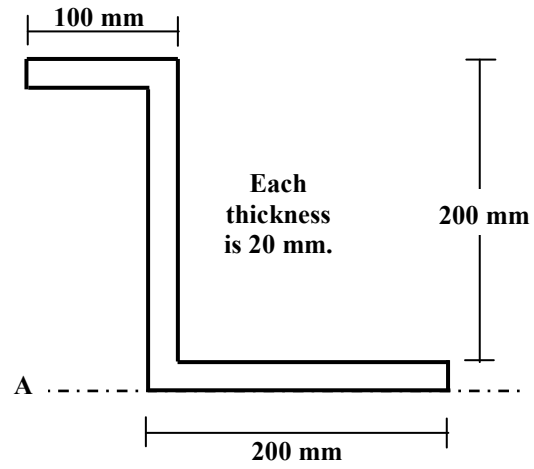

FIGURE-4 Q-4 (a) OR
- Q.4** (a) Calculate moment of inertia about the line AB for the section given in figure-4. 7